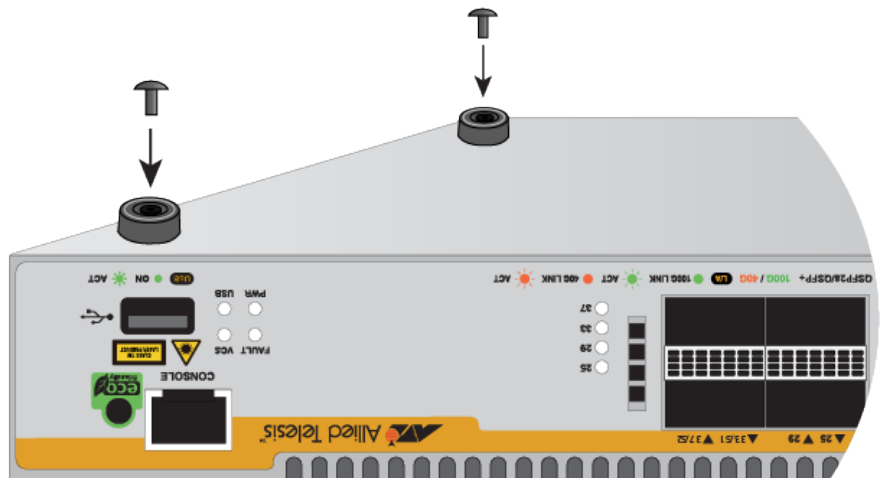

Figure 14. Inserting the Rivet into the Bumper Foot
5. Insert the rivet to secure the bumper foot to the base. See Figure 14.